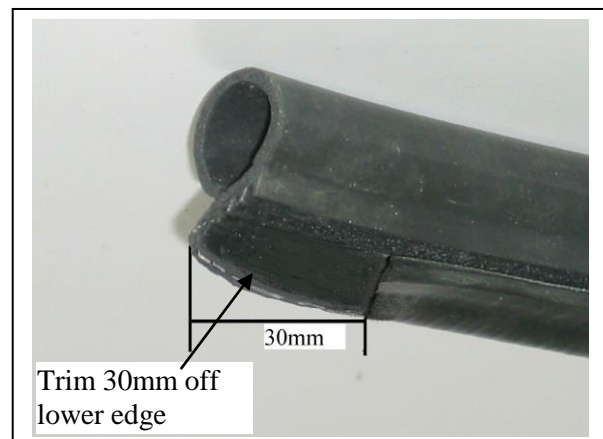

Figure 2
7. Attach infill trim (supplied) to top of ECB protection bar. **NOTE:** Trim 30mm off lower edge so trim will sit over end of protection bar. **See figures 2 and 3. Trim excess off end to follow protection bar. See figure 4. NOTE:** Seal any exposed edges of trim with silicone or similar to avoid corrosion of inner steel.